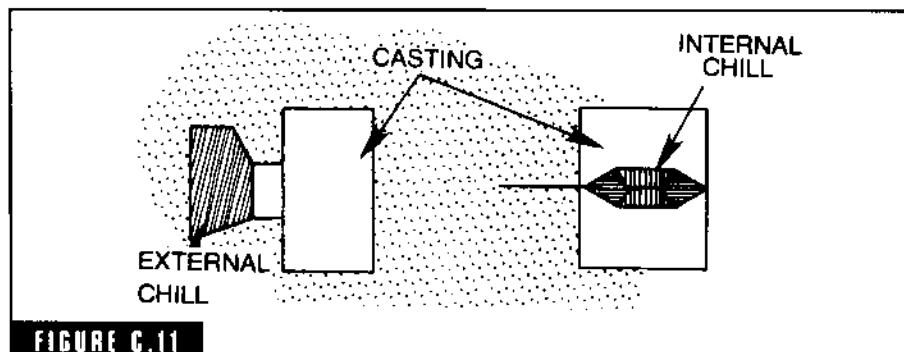

**FIGURE C.10** Cheek is the section of flask between the cope and drag section.
**cheek** A section of flask between the cope and the drag sections of a flask to decrease the difficulty of molding an unusual shape or to fill the need for more than one parting line (Fig. C-10).